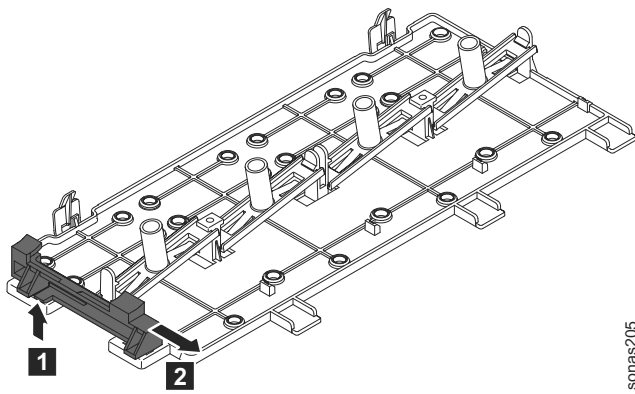

Figure 24. Removing the rear controller retention bracket
- 2) Remove the rear controller retention bracket located in the battery bay above the power supplies by pulling up the release tab **1** and sliding the bracket outward **2**. See Figure 24.